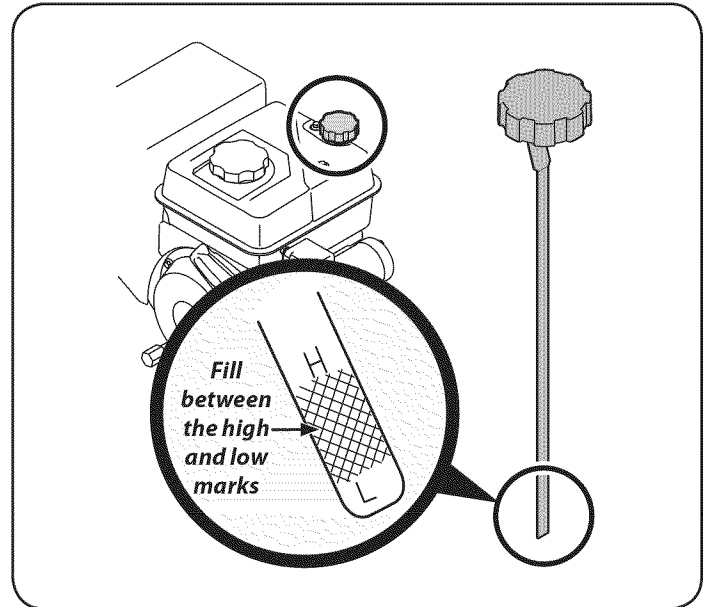

Figure 5
2. Remove the oil filler cap/dipstick and wipe the dipstick clean. See Figure 5.